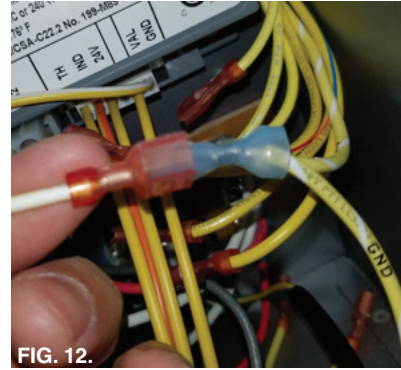

FIG. 12.
- Connect the yellow/white wire coming from GND in the ICM to the GND cable as shown in Fig. 12.